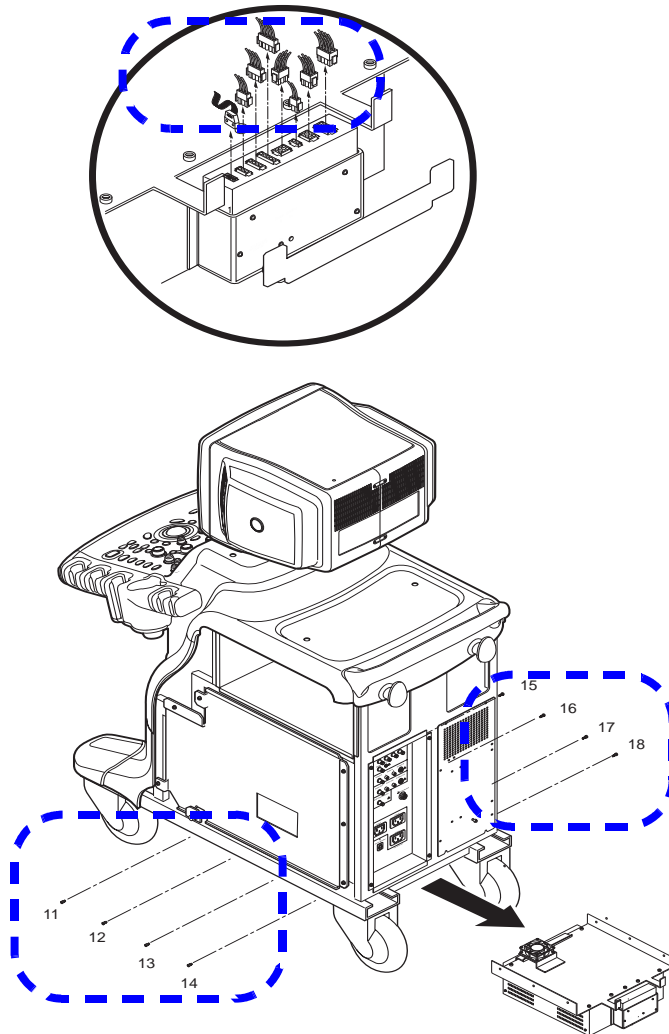

Figure 8-184 Removing the AC Power Assy
- 3.) Unscrew eight (8) screws (11-18) to remove AC Power assy. Refer to Figure 8-184.